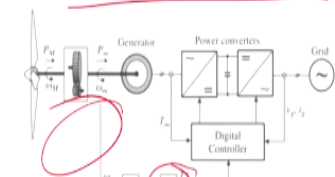

Fig.7: Optimal TSR control of wind turbine
- The maximum power operation can also be achieved with optimal torque control according to Equation (16), where the turbine mechanical torque  $T_m$  is a quadratic function of the turbine speed %.
- Fig.7 shows the principle of the MPPT scheme with optimal torque control, where the generator speed  $\omega_m$  is measured and used to compute the desired torque reference  $T_m^*$ .
So, this is called optimal TSR control of the wind turbine. The maximum power operation can also be achieved with the optimal torque control according to the equation 16 where the turbine mechanical torque  $T_m$  is a quadratic function of the turbine speed. You have seen it in this equation and the figure 7 what does it do. So, it sense the speed from, it is carried out from here and thus you have a reference torque and you will control the torque of the system.
This is called optimal TSR control of the wind speed and figure 7 shows the principle of the MPPT scheme with optimal torque control where the generator speed  $\omega_m$  is measured, used to compare with the desired torque reference  $T_m$ . So, in that way, you will have both the control, you have a reference  $\omega_m$  and try to  $\omega_m$  and here is a torque control. So, both are been when used that is called optimal torque control method for tracking MPPT.